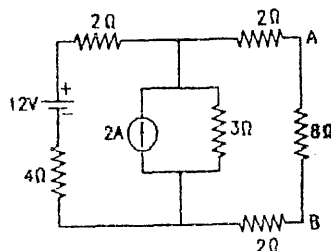

FIG. 1.191 : REFERENCE FIGURE FOR PROBLEM NO. 14
14. Using Thevenin's theorem, calculate the current through $8\ \Omega$ resistor in the given network of Fig. 1.191. [0.6 A]